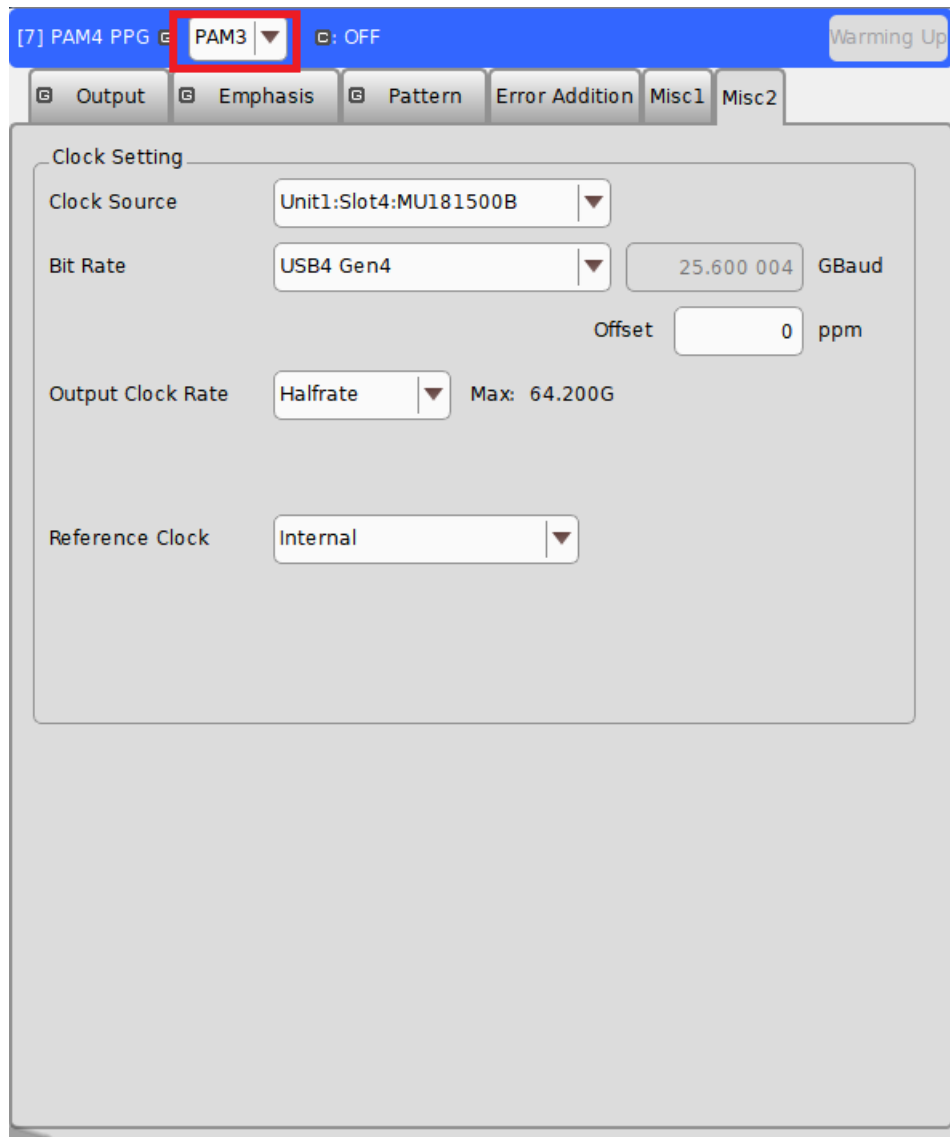

FIGURE 60. MODULATION TYPE “PAM3” SETTING
- ii. Switch modulation type to “PAM3”. See Figure 60.